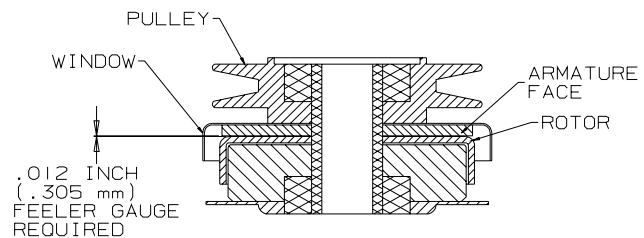

Figure 2
3. Insert a .012 inch feeler gauge into one of the three windows. Be careful to position the feeler gauge between the rotor and armature faces. (Figure 2)